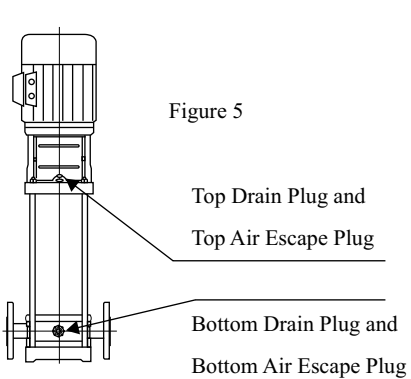

Figure 5
- a. When the water level is above the pump, unscrew the top air escape plug that locates in the middle of the top priming plug and let the water flow in and fill up the pump body to vent the air form the pump body completely, and then screw back the air escape plug until it is firmly tightened. (See Figure 5)